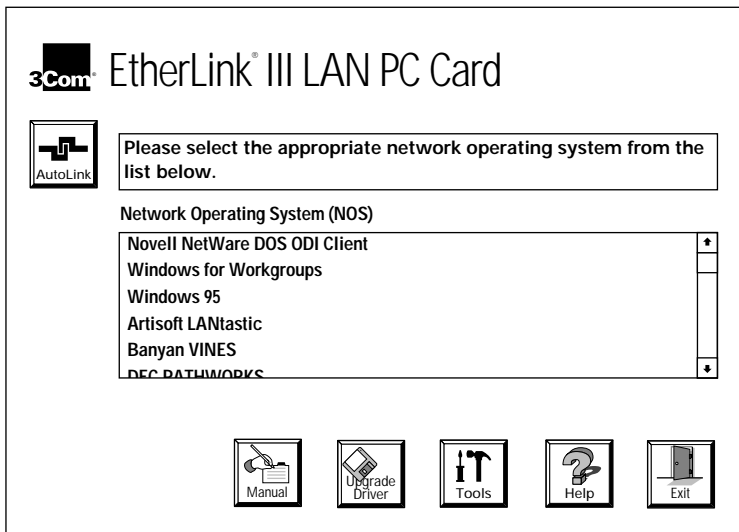

Figure 5-1 Main Screen
This step assumes you are at the main screen, shown in Figure 5-1.
- 1 Click *Tools* on the main screen, shown in Figure 5-1.